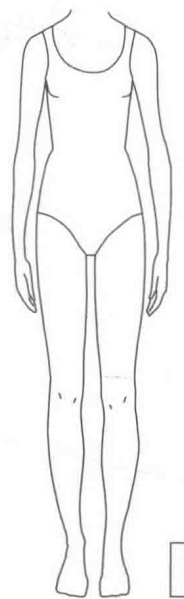

FIGURE 4.37
- The tubular figure may be balanced or not, but has less than average body weight distributed over its bone structure (see Figure 4.37).